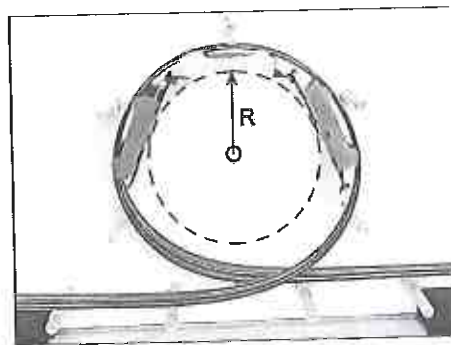

Figure 3: Loop Radius
2. Put a peg in the center of the loop. Place the Mini Car at the top of the loop. Mark on the position of the center of mass of the car on the white board. Measure from the center of the center peg to the center of mass of the car at the top of the loop (see Figure 3).